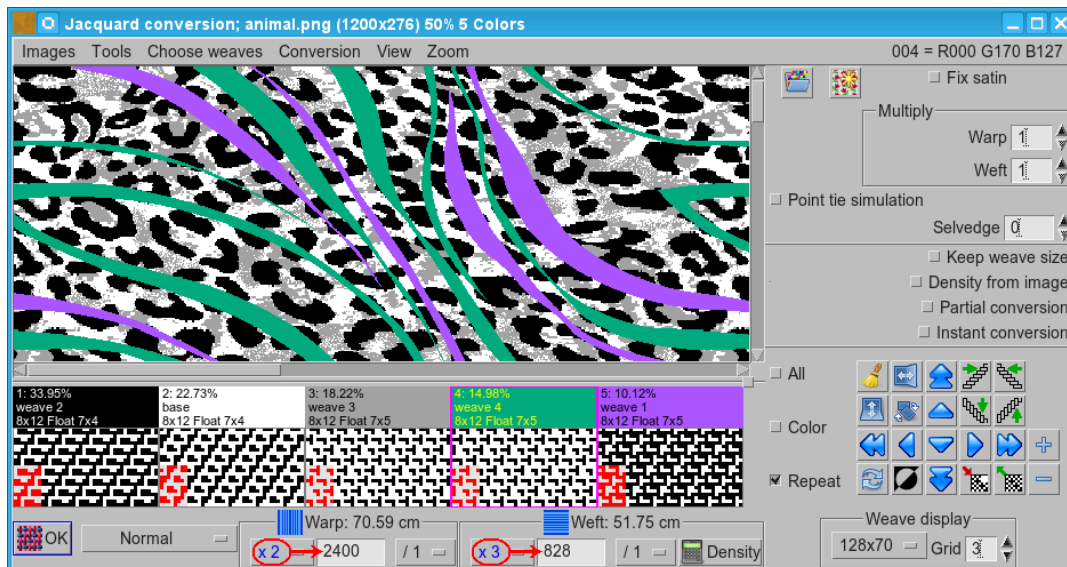
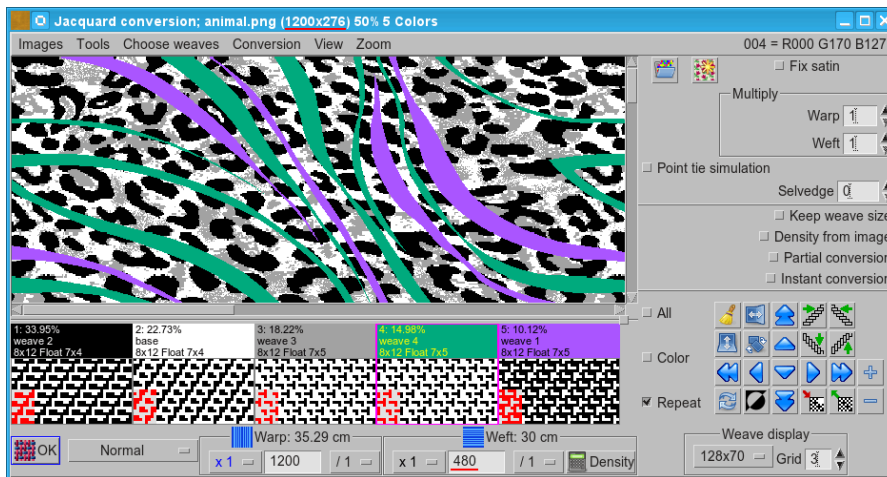

Figure 226: Jacquard weave size changed by multiplying
Figure 227: Jacquard weave size changed manually
- Choose multiplication factor of the original image size from the drop down menu **x 1**. You have a possibility to select any multiplication from 1 to 16. In Figure 226, multiplying by two (x2) is used for warp, and multiplying by three (x3) is used for weft. Blue color of the multiplier factor indicates, that it was used to determine the weave size. If we change the number manually (Figure 227), then its color turns to black.